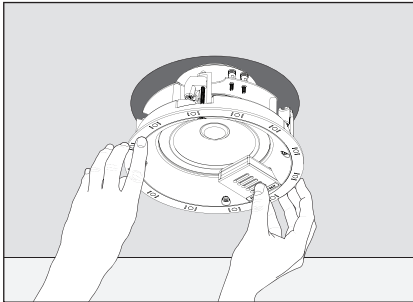

Fig. 5c
9. Gently push the assembly into the ceiling or wall hole (Figs. 5c & 6d).